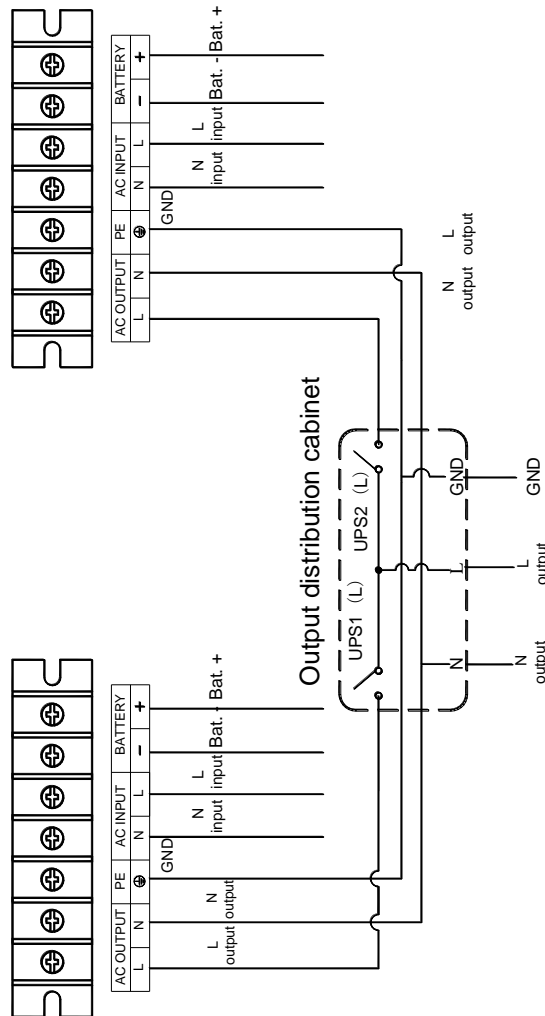

Fig. 3-4 Connecting way of Parallel System
1. According to the installation method described above, install each parallel system unit's battery and host respectively, and then AC output of the parallel unit is connected to the parallel system's output distribution cabinet. (The model of connecting is shown in fig. 3-4)
3. The parallel system connecting way of KR/B 1110-J is shown in fig3-4.